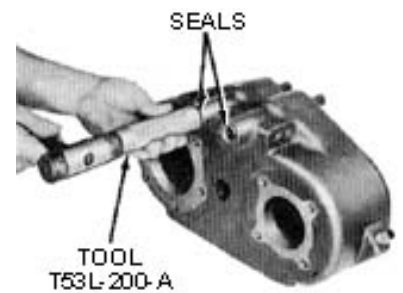

Figure 17 – Installing Shift Rail Oil Seals
2. Install the two shift rail oil seals, using the tool shown in Fig. 17.